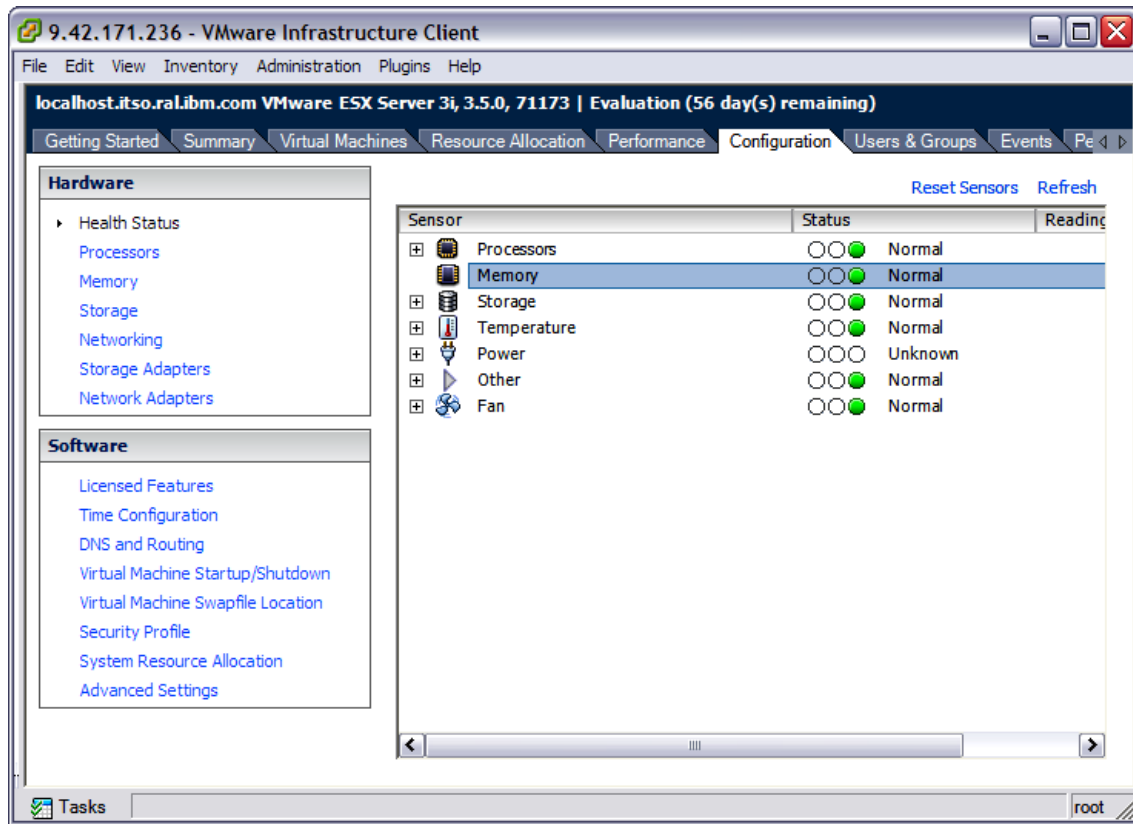

Figure 5-21 The VI Client Configuration tab for ESXi host displaying Health Status basic alerts for the ESXi's server major subsystems
- ESXi can interface with Common Information Model (CIM) through a set of standard APIs to provide basic processor, memory, storage, temperature, power, and fan hardware-level alerts. See Figure 5-21.